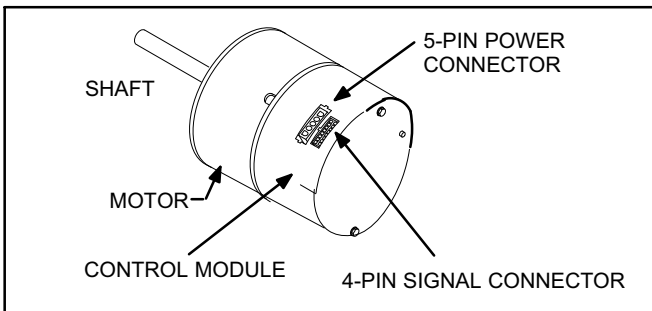

Figure 1. Module Connectors
- 4 - Unplug the 5-pin power cable and 4-pin signal cable from the control module. See Figure 1 for location.